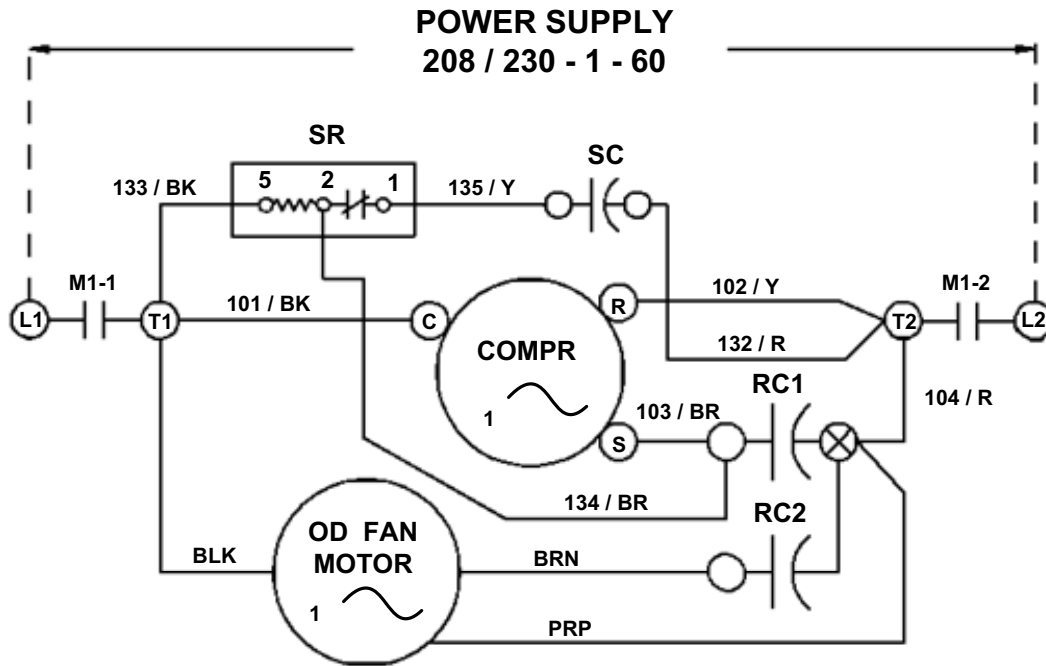

FIGURE 2 - WIRING DIAGRAM
4. Attach brown lead wire **#134** from the start relay terminal **#2** to the same terminal on the run capacitor that was located in Step 3. See Figure 2.
NOTE: The wiring of the capacitor and relay must agree with Figure 2.